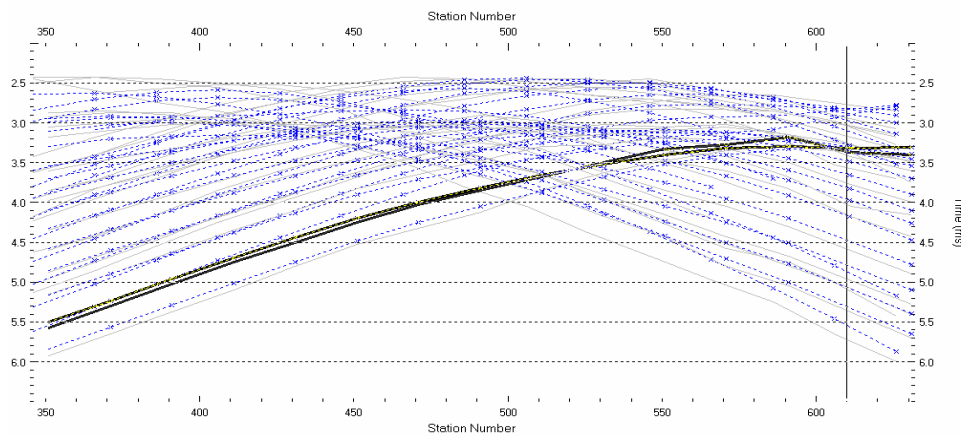

Fig. 4 : match between picked times (grey traveltimes curves) and modeled (blue), after 20 WET iterations
- select *Refractor|Shot breaks* to review traveltim curves. See Fig. 4 on next page.